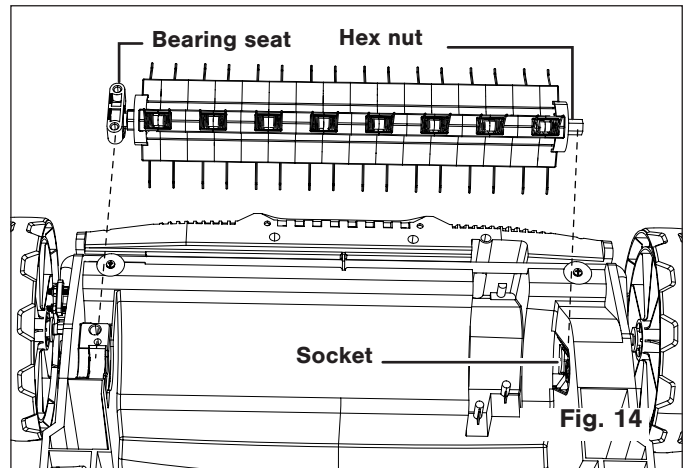

Fig. 14
5. Align and insert the respective cutting device: Slide the hex nut into the socket of the drive shaft and fix the bearing seat to the support with the locking bolts (Fig. 14).